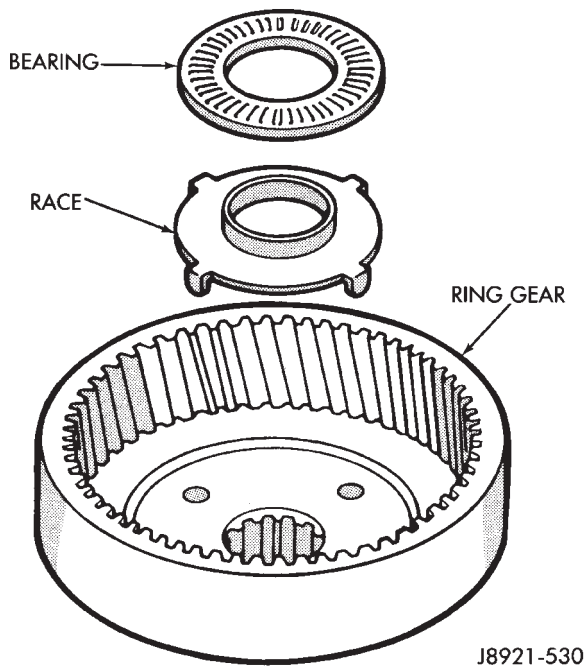

Fig. 10 Removing Ring Gear Bearing And Race
(11) Remove bearing and race from ring gear (Fig. 10).